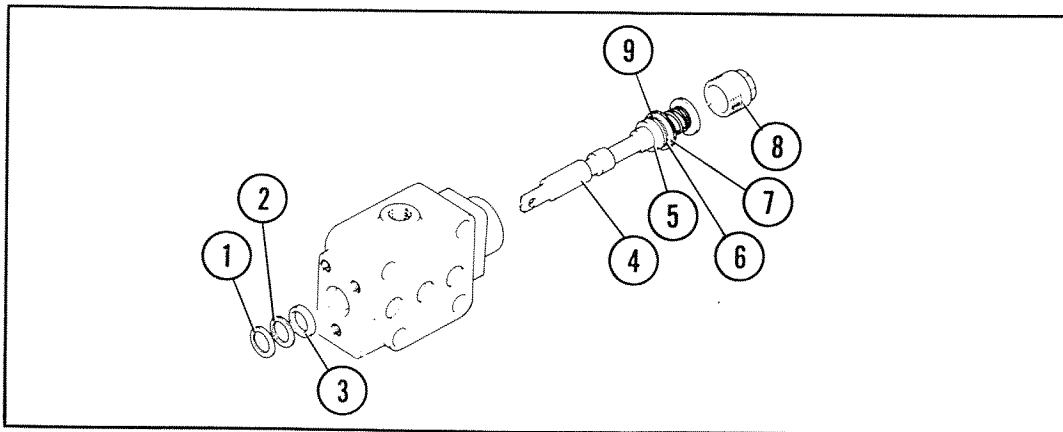

**Figure 9**
3. Remove the bolt and remove the bracket (1), Figure 9.
4. Remove the plug (2), Figure 9.